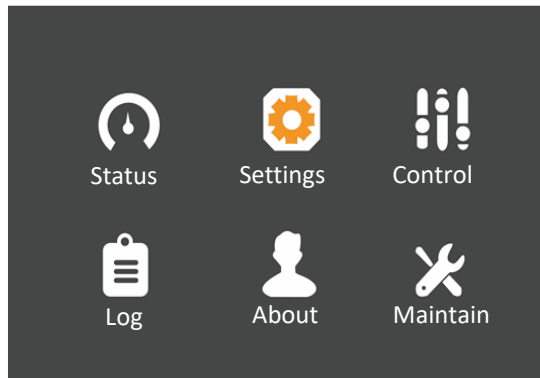

Figure 5-16 Main Menu Screen
1. Access the main menu screen and press the or key to switch the cursor to select 'Settings', then press the key to confirm it. See Figure 5-16.